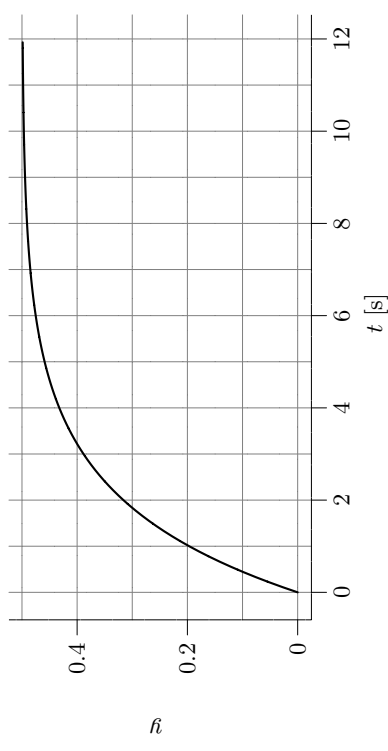

Figure 5.9c
In order to find the constants  $k_A$  and  $a$ , a unit step experiment has been carried out on the amplifier, giving the output shown in Figure 5.9c.
- a) Find the constants  $k_A$  and  $a$  from Figure 5.9c. Also draw the Bode plot for the open loop system, that is, the system from  $u$  to  $y$ .